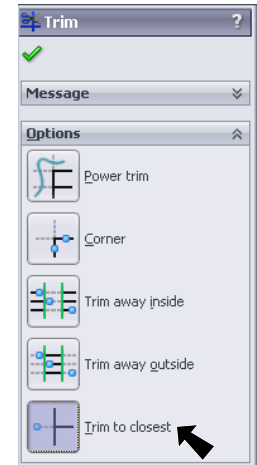

Fig. 99
Step 24. In the Property Manger select **Trim to closest** , **Fig. 99**.